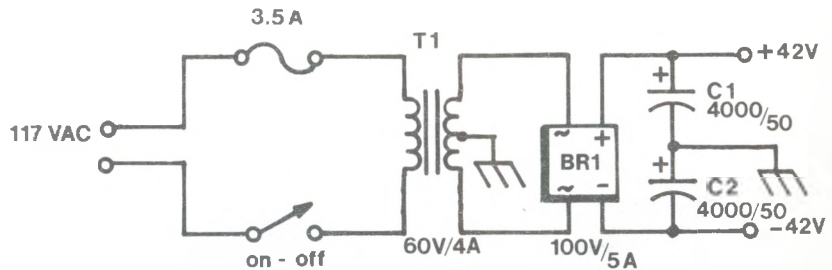

Fig.3
- Figure 3 should have the mode switch in the DELAY position.
Fig. 3 should show a 5V bias voltage into the CV input of the 4730.
+42V Power Supply (Fig. 3)